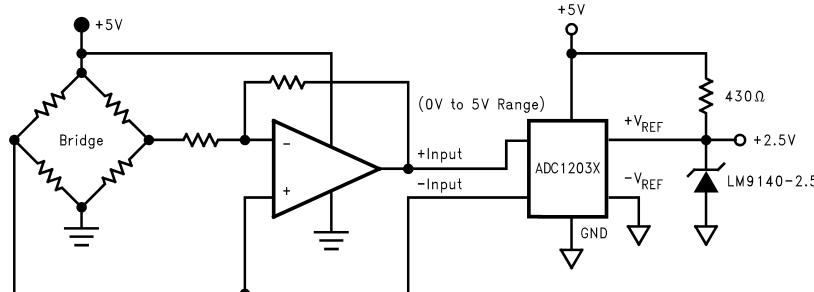

Figure 9.
The LMP2012 is a great choice for an amplifier stage immediately before the input of an ADC (Analog-to-Digital Converter), whether AC or DC coupled. See Figure 8 and Figure 9. This is because of the following important characteristics:
D) Rail-to-Rail output swing maximizes the ADC dynamic range in 5-Volt single-supply converter applications. Below are some typical block diagrams showing the LMP2012 used as an ADC amplifier (Figure 8 and Figure 9).